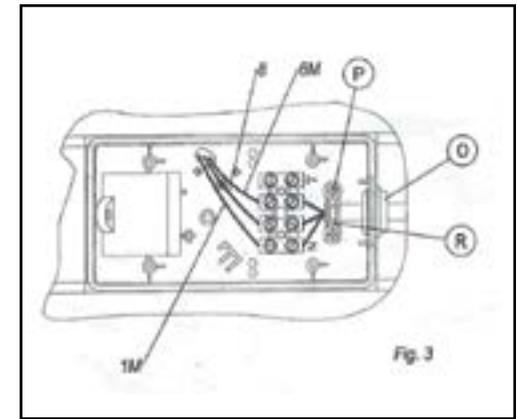

Fig. 3
If you wish to install a switch to allow a choice between high speed (HS) and low speed (LS), see the connection sketch in (Figs. 3 & 4).